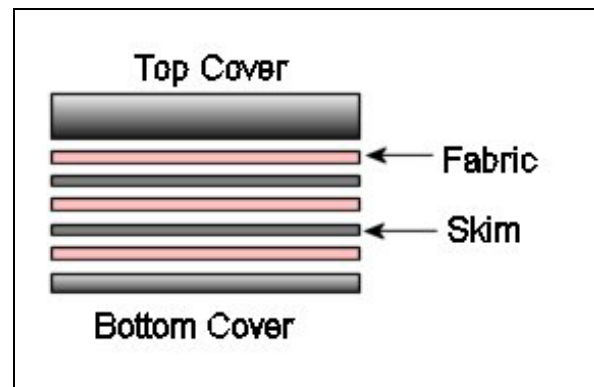

Figure 21. Plied Belt Cross Section.
**Plied** conveyor belts consist of covers, one or more fabric plies / carcasses, and skim coats (Figure 21).